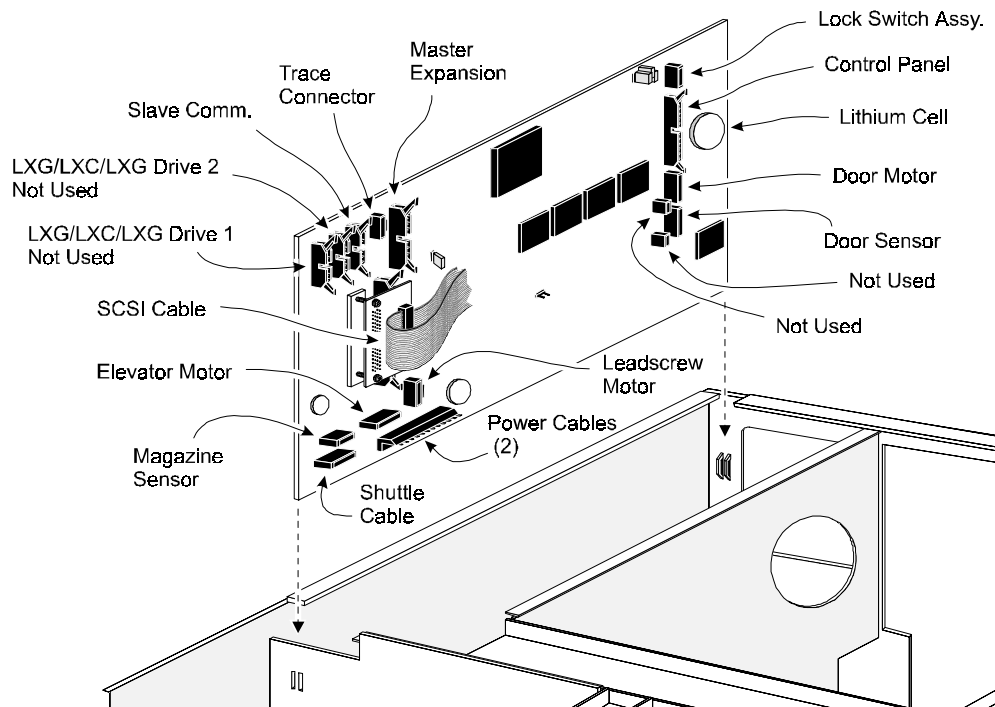
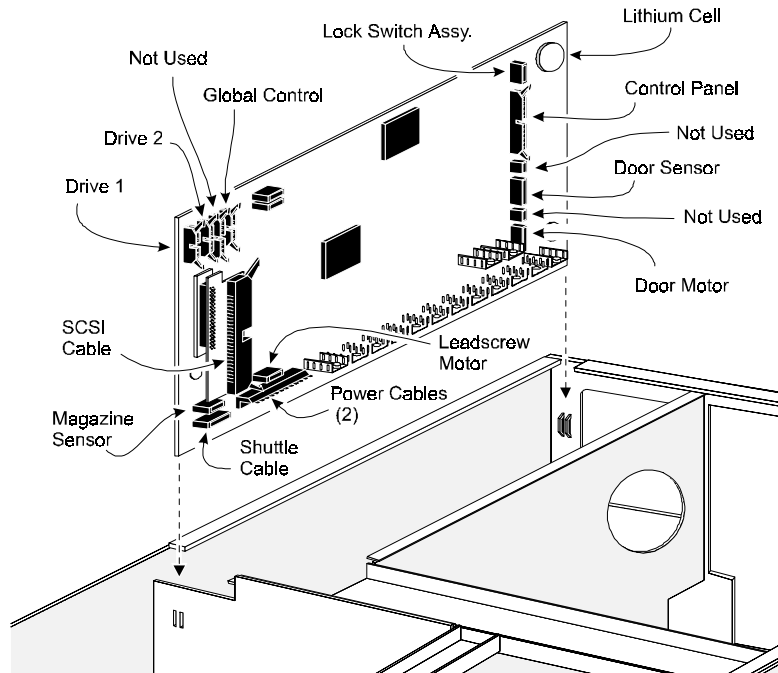

Figure 6-7 Controller PWB Connector Locations
Figure 6-8 Controller PWB Connector Locations, Early Base Module
2. Install two M4 extension screws (5) at the top of the Caddy Assembly.
3. Install two M4 x 8 mm flathead Phillips screws (4) along the upper edge of the Caddy Assembly.
4. Connect the Drive 1 and Drive 2 (if present) RS-422 cables (3) at the Controller PWB. Refer to Figure 6-8 for connector locations.
5. Connect the drive power cable (2) to the Power Supply connector.
6. Connect the SCSI cable connectors (1) to the Controller SCSI extension cable.
The layout of the connectors on the Controller PWB Assembly is shown in Figure 6-7. Figure 6-8 shows a Controller PWB Assembly used in some early production Base Modules. Note that there is a vertical row of connectors near the front of the PWB, a row near the top edge at the rear of the board, a large SCSI connector along the back of the PWB, and a group of four connectors at the bottom of the PWB near the rear.
Refer to Figures 6-7 and 6-8.